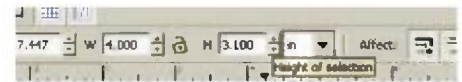

Figure 4. Use the Inkscape measurement tools to ensure accurate dimensions.
5. With the rectangle still selected, specify the exact width and height dimensions in the Tool Controls bar: 4.000" for the width and 3.000" for the height. Refer to **Figure 4**.